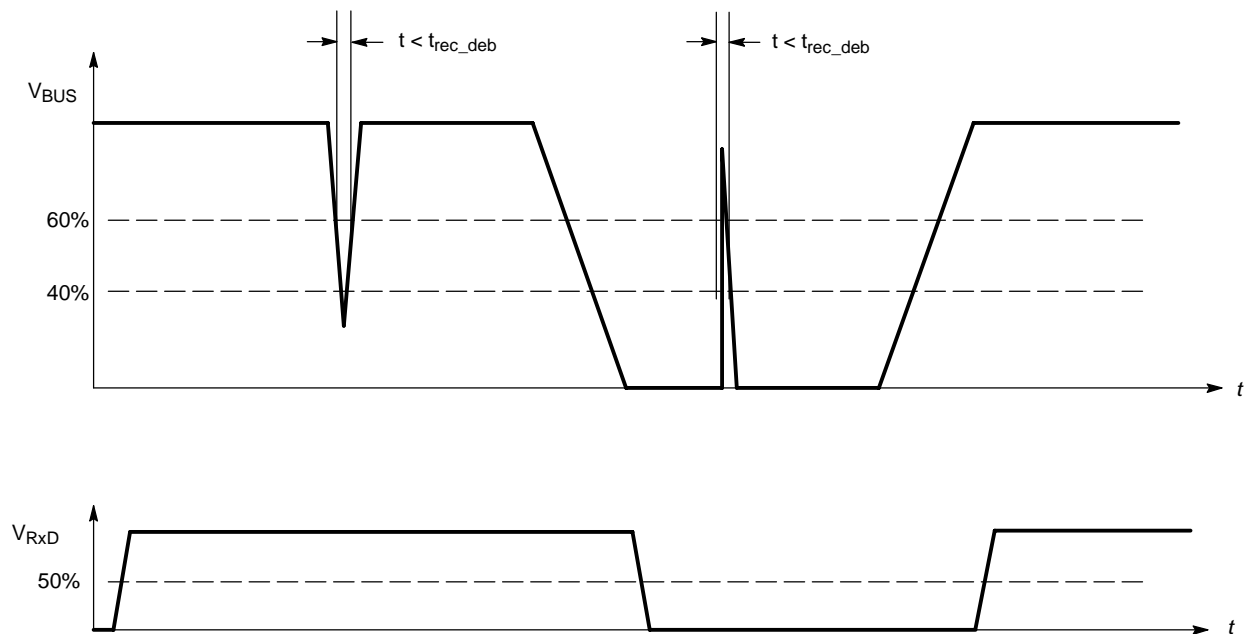
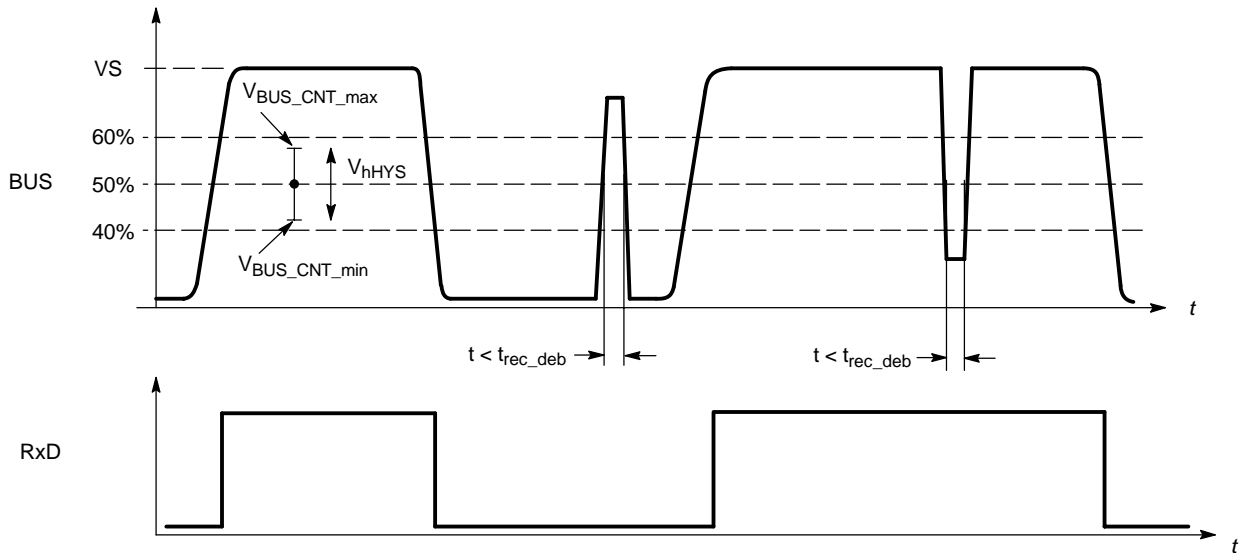

Figure 3. Receiver Debouncing
Figure 7. Receive Impulse Diagram
12. See Figure 3 – Receiver Debouncing.
The signal on the BUS pin will be transferred continuously to the RxD pin. Short spikes on the bus signal are filtered with internal circuitry (Figure 3 and Figure 7).